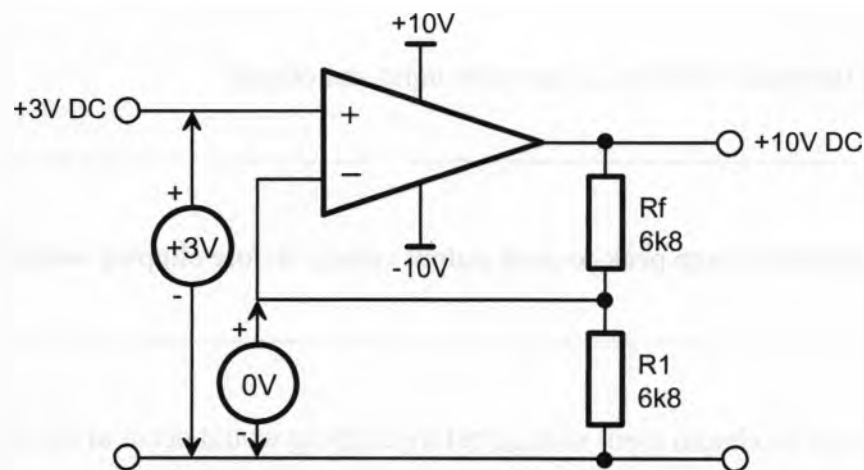

Figure 3
18. Figure 3 below shows a faulty non-inverting amplifier with input and output voltages shown together with the voltages on the op amp's non-inverting and inverting pins. State what component in the circuit is faulty and what's wrong with it. **Tip:** Work out what the circuit's output voltage should be.